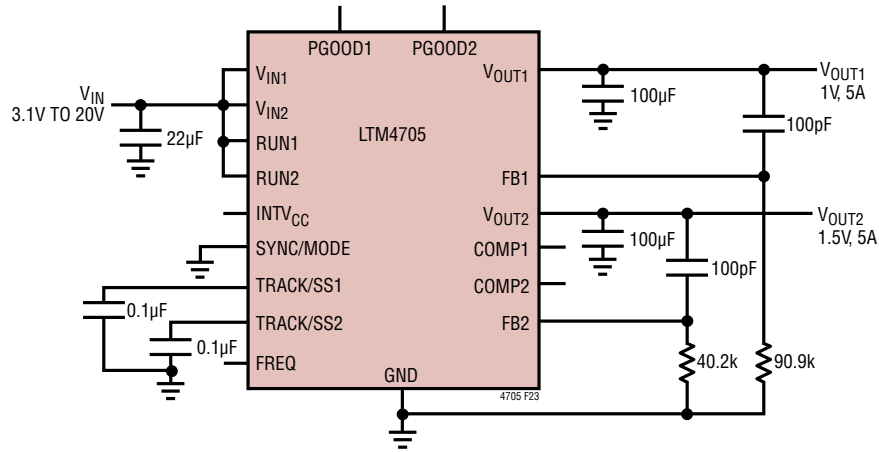

Figure 23. 3.1V_{IN} to 20V_{IN}, 1V and 1.5V Output at 5A Design
**Table 8. Output Voltage Response for Each Regulator Channel vs Component Matrix (Refer to Figure 23)